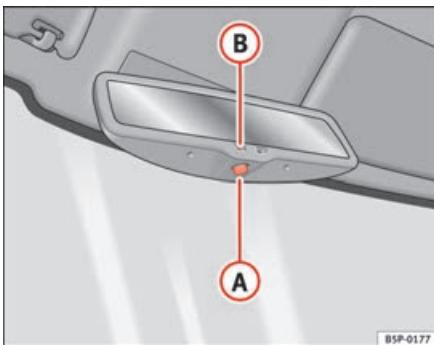

Fig. 70 Automatic anti-dazzle interior mirror.
- Press button **A** ⇒ fig. 70. Warning lamp **B** goes out:
- Press button **A** ⇒ fig. 70. Warning lamp is lit.